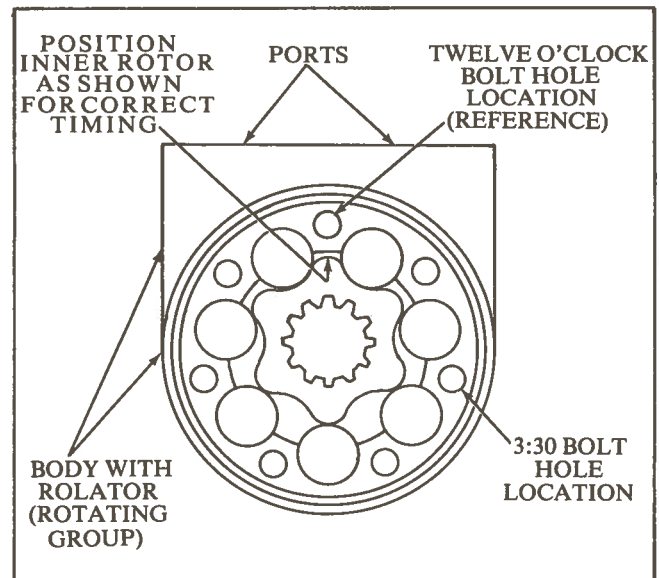

Figure 10. The reference twelve o'clock and 3:30 bolt hole positions showing gerotor/rolator inner rotor timing.
13. Install universal (12) with the chamfered end located within the shaft and bearing S/A.
14. Install two square cut seals (9) into the seal grooves of rotating group (10).
15. Install rotating group (10) as shown in Figure 10. The inner rotor must be positioned as shown and rotary valve timing must still be in the Figure 5 position. Align the bolt holes of rotating group (10) and stationary valve (14) with body (20). Thread in two screws (6) loosely, opposite of each other. This will keep the parts in position.